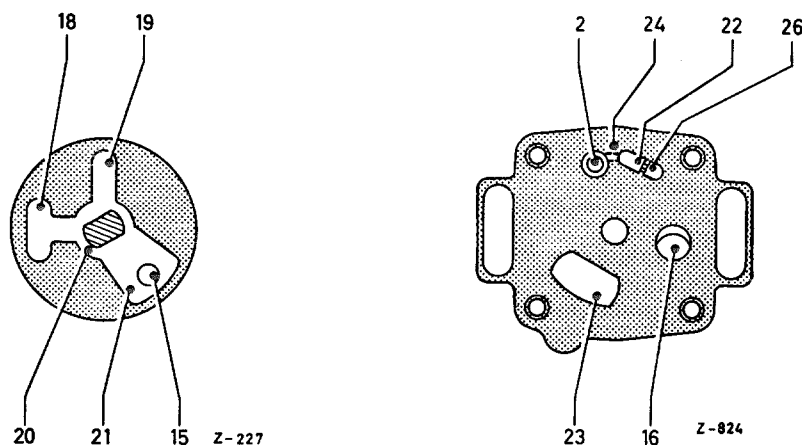

Fig. 07-0/22
When the engine is warmed up, but if the idling speed with the starter mechanism inoperative is still too low, the starter knob can be pushed in about $\frac{3}{4}$ of the way. As a result, the starter rotary slide valve is turned toward the right as seen from warm-up position I. The chamber (19) of the slide valve is now opposite the second part (26) of the split fuel slot in the starter flange on the carburetor housing. Since this second part of the slot is connected to the first part (22) of the fuel slot only by a very fine graded bore, the amount of fuel passed from the starter mechanism is decreased still further (Fig. 07-0/22).